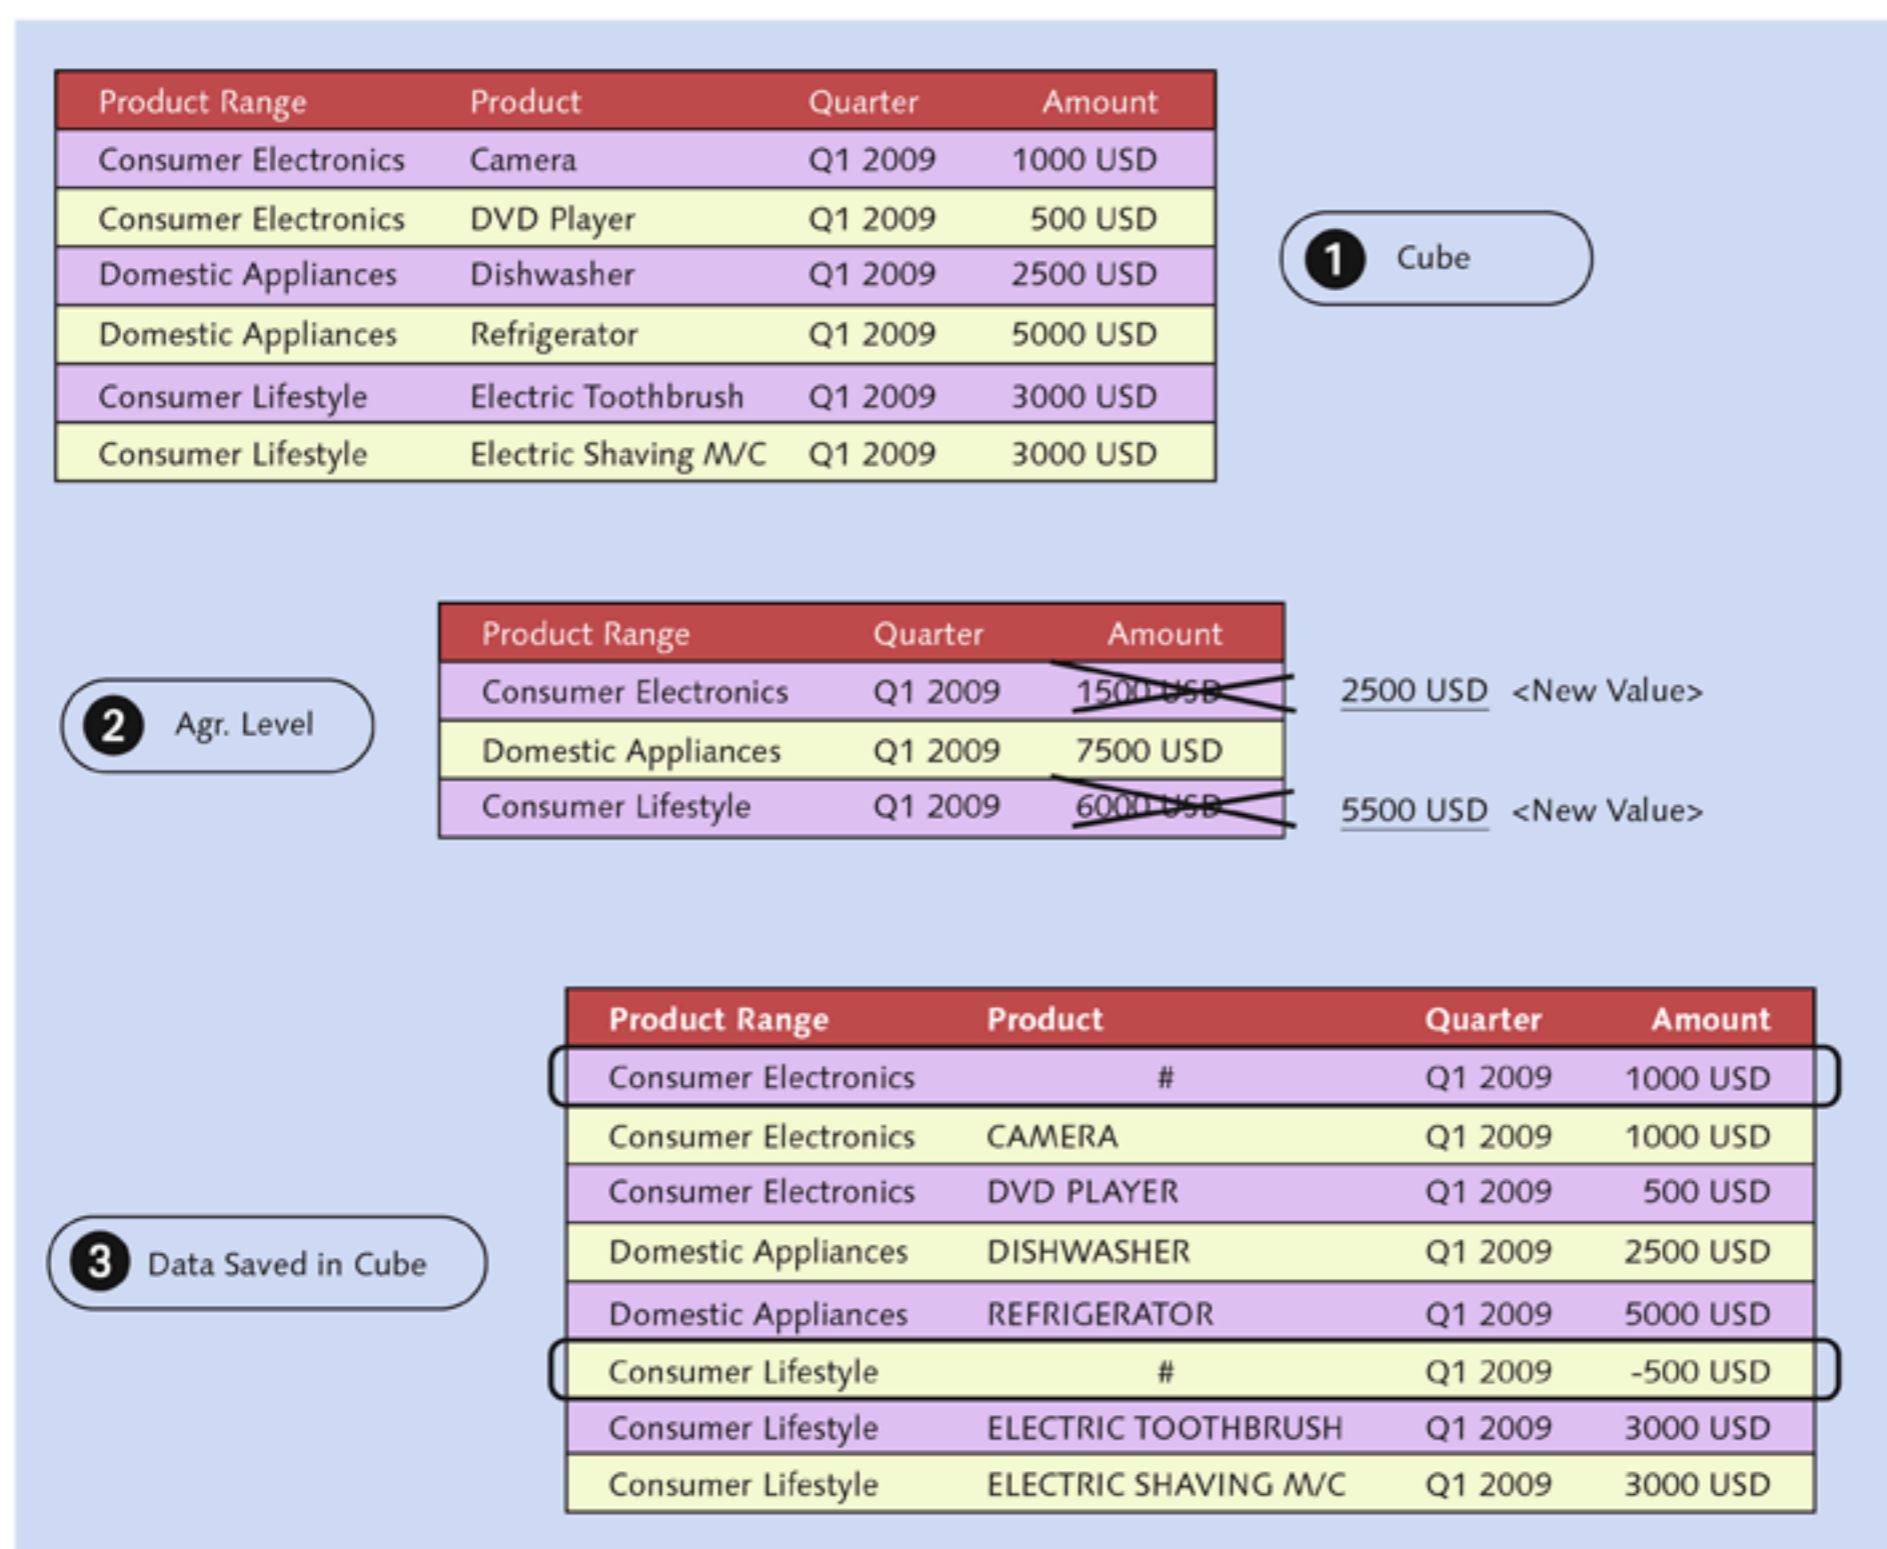

Figure 12.22 Not Assigned (#) Values
If some data is changed or edited for an aggregation level, the record is stored in the InfoCube as # (i.e., not assigned) for all characteristics that aren't included in the aggregation level. We explain this concept with the help of Figure 12.22.
The InfoCube stores the data for the following characteristics: PRODUCT RANGE, PRODUCT, and QUARTER (1 of Figure 12.22). The aggregation level is defined at the product range and quarter level, so the data is aggregated for the characteristics that are included in the aggregation level (2). Now, if the data is changed at